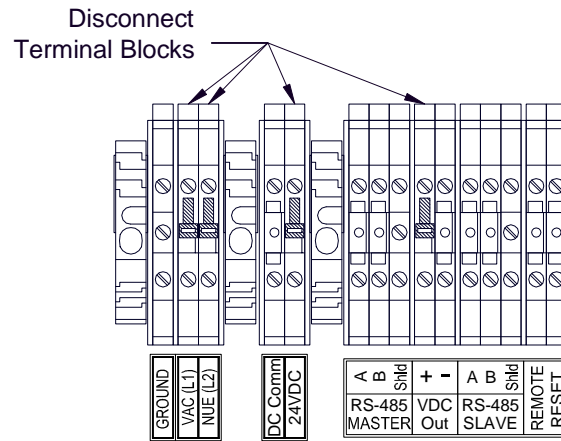

Figure 8 N1P and N1R Connections
3. Install AC or DC power as follows: (Refer to Figure 8.)
4. Connect the external Modbus™ sensors at the RS-485 connections labeled **RS-485 Master: 'A'**, **'B'**, and **'Shld'** (Figure 8).